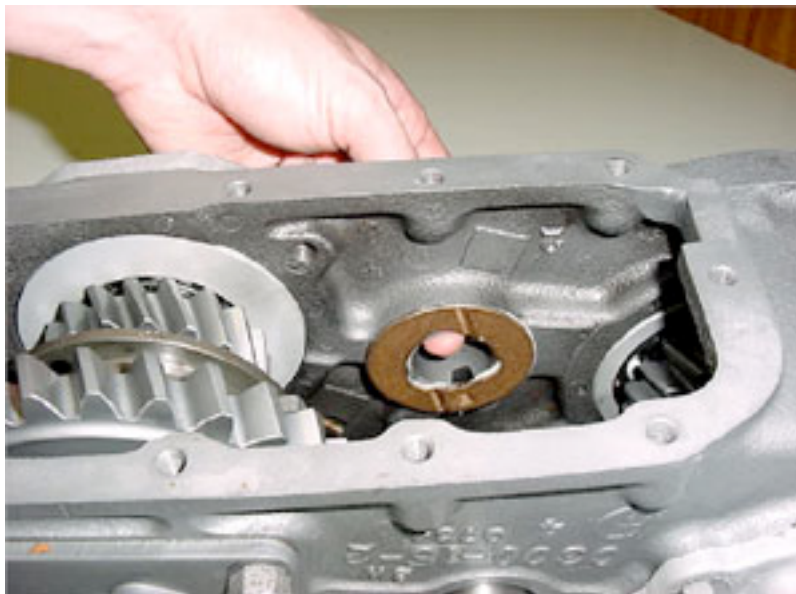

FIG: 21
20) As you lower the idler into place in the next step, you can hold the thrust washer into place with your finger tip as shown (Fig.21).